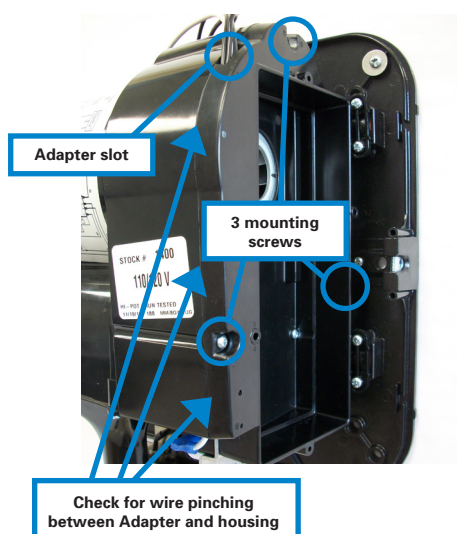

Figure 3-10
Step 3-10. Attach the HEPA Filter Adapter (A) with Control in the spot where the air inlet cover was removed, using the **three (3)** screws previously removed in Step 3-3. Make sure to route the wires through the Adapter slot so that they are not pinched (especially in the areas indicated in **Figure 3-10**). It may be necessary to adjust the position of the HEPA Filter Adapter until it is flush with the dryer housing. The HEPA Filter Adapter will not be positioned flush to the dryer until the screws are tightened. The foam seal on the back of the HEPA Filter Adapter will compress against the casing of the motor.